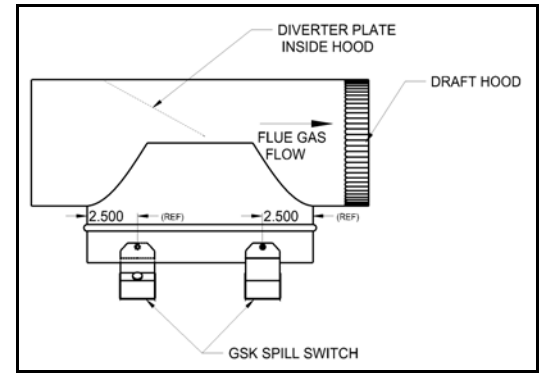

Figure 1
### IN-LINE HORIZONTAL DRAFT HOOD (See Figures 1 & 2)
1. Two (2) switches are recommended on these hoods. Mount the switches approximately 2 1/2 inches from the opposite ends and sides of the draft hood opening. (See Figure 1)